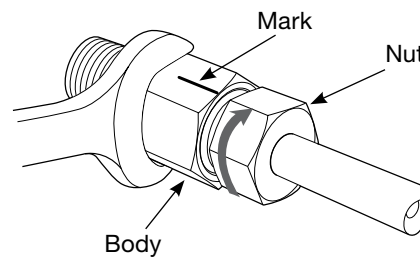

Fig. 5 Tighten Nut with Wrench
- Place a mark on the fitting body, inline with one of the hex points of the nut. Hold the fitting body steady and tighten the nut one-third turn or two hex points from the scribed mark. See Fig. 5. *Alternatively, hold the fitting body steady and tighten the nut to the specified torque.*